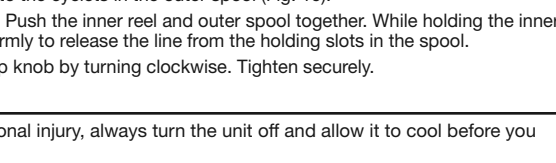

Fig. 19
- Insert or slide the ends of the line through or into the eyelets in the outer spool and place inner reel with spring inside the outer spool (Fig. 19). Push the inner reel and outer spool together.
- Insert or slide the ends of the line through or into the eyelets in the outer spool (Fig. 19).